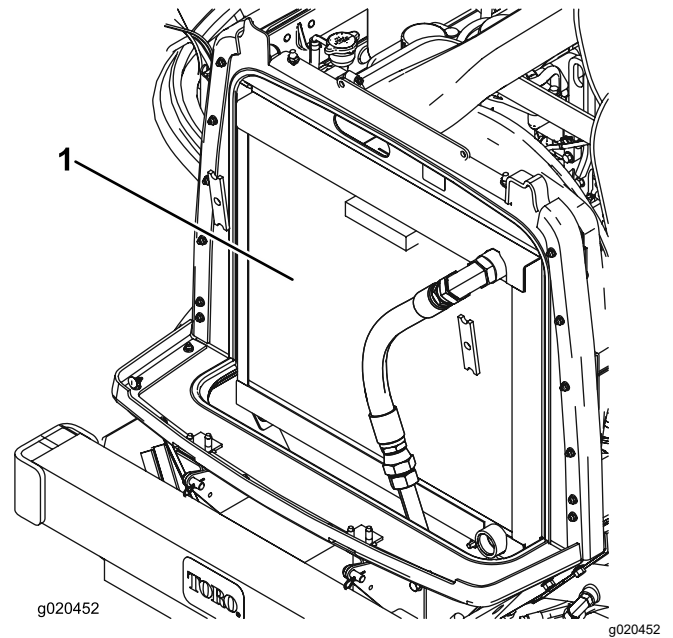

Figure 110
3. Clean both sides of the radiator/oil cooler area thoroughly with compressed air (Figure 110).